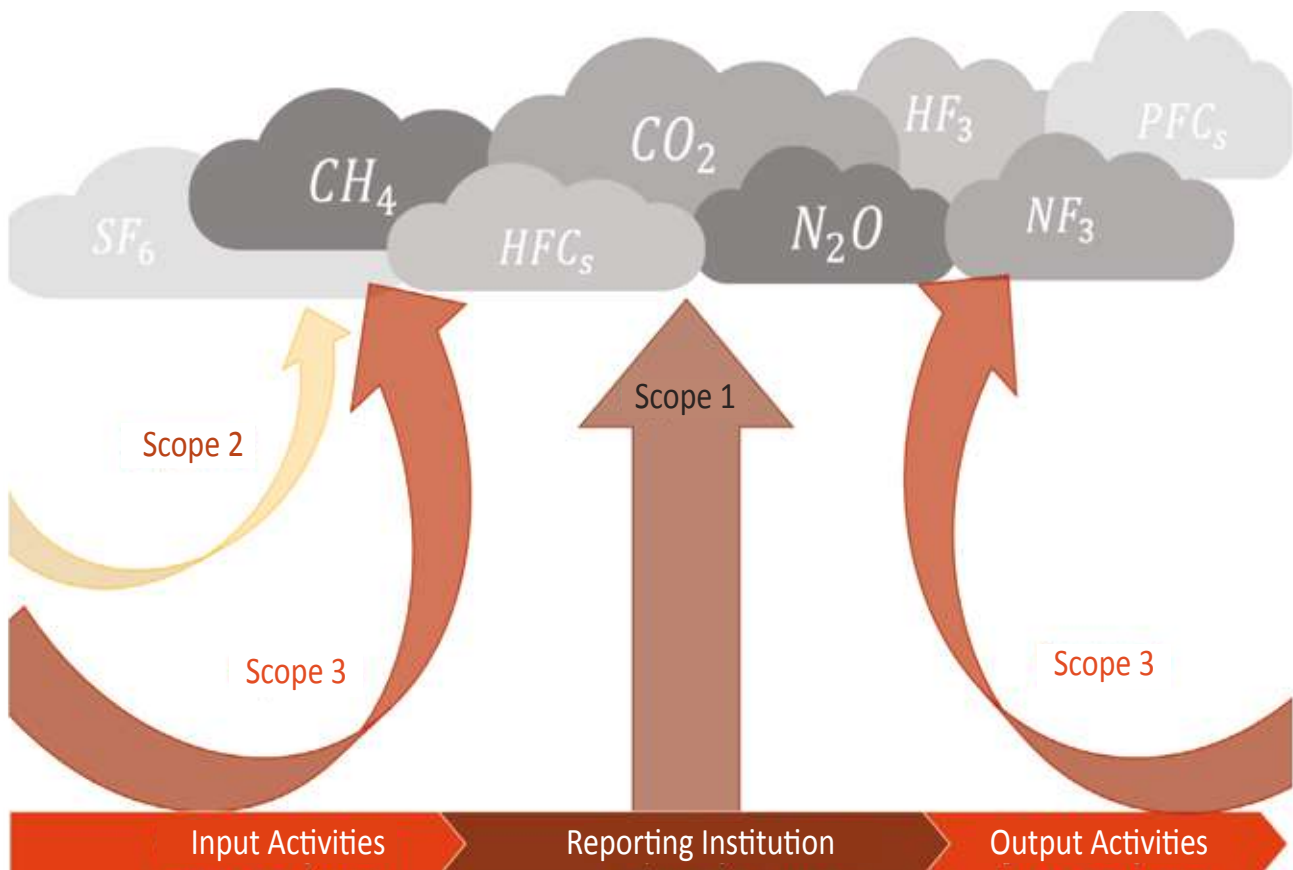

Figure 3. Classification of Scopes According to Activities
**Scope 3** covers other greenhouse gases not included in scopes 1 and 2 of the greenhouse gases from establishment activities or under control. Waste, Business travel, purchasing, transportation, and distribution processes are examples of scope 3. Scope 2 and scope 3 are evaluated in input activities in calculating the corporate carbon footprint. While the reporting institution/organization/company activities are considered as scope 1, it is evaluated as scope 3 for output activities. The institutional evaluation of scope 1, scope 2, and scope 3 is shown in Figure 3. At the same time, it has increased the number of scopes when calculating the corporate carbon footprint